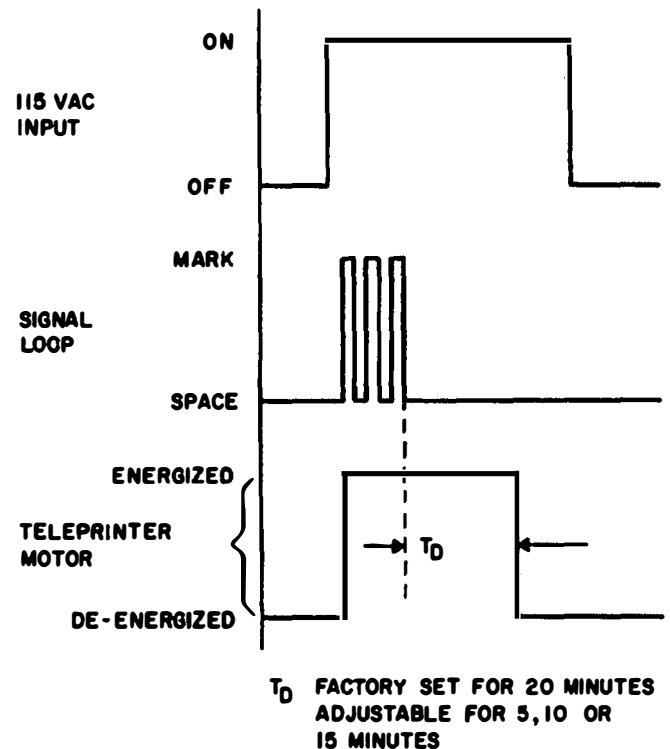

Figure 1-2. Timer Logic Diagram
4.1.1 Reference to the timer logic diagram, contained in figure 1-2, shows that power must be applied continuously to the unit. A signal appearing on the Signal Loop sets the latching circuit which energizes the control relay, turning on the teleprinter motor. "Mark-to-Space" transitions do not affect the latching circuit, which remains in its latched state. However, they do reset the timer. After the last "Mark-to-Space" transition, the timing is initiated.